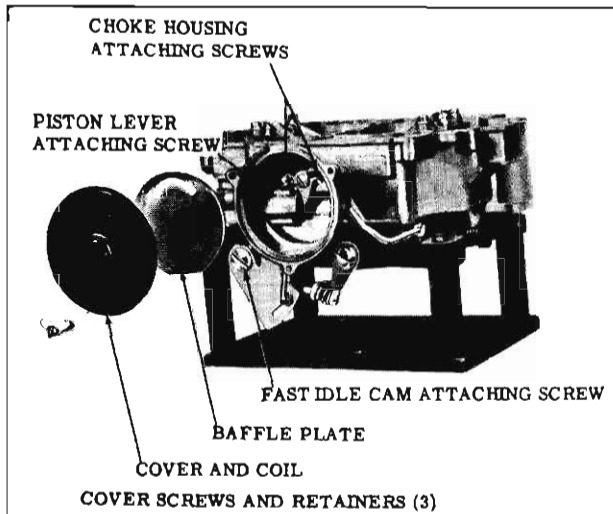

Fig. 4-162 Choke and Fast Idle Cam
13. Install the choke housing gasket, intermediate choke lever and shaft with linkage in the choke housing. (Fig. 4-162)